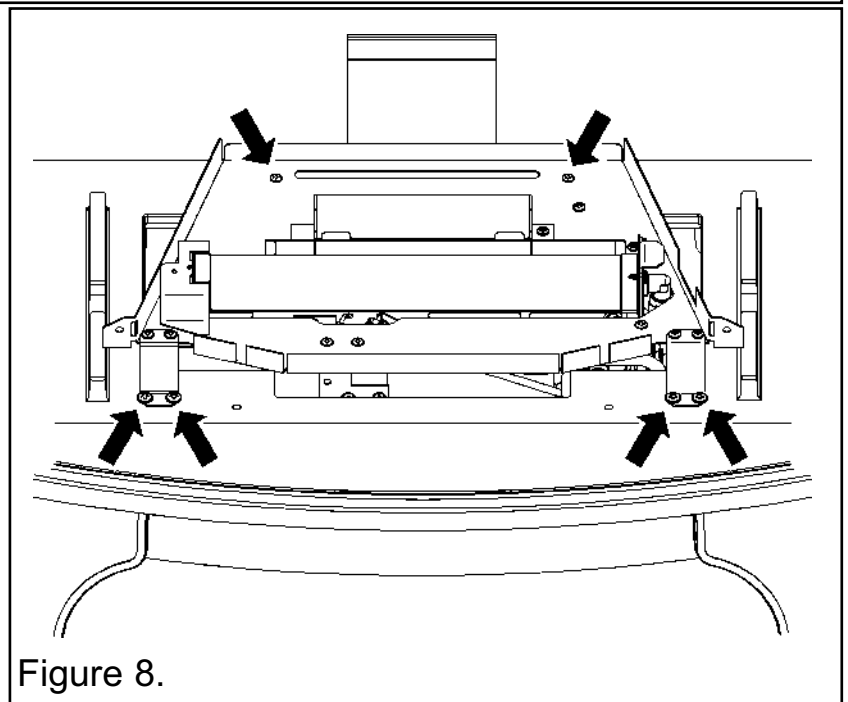

Figure 8.
5. Locate the burner assembly inside the stove body as in figure 8 (The outer body of the stove is not shown for clarity). Secure using the six No.4 x 10mm screws supplied